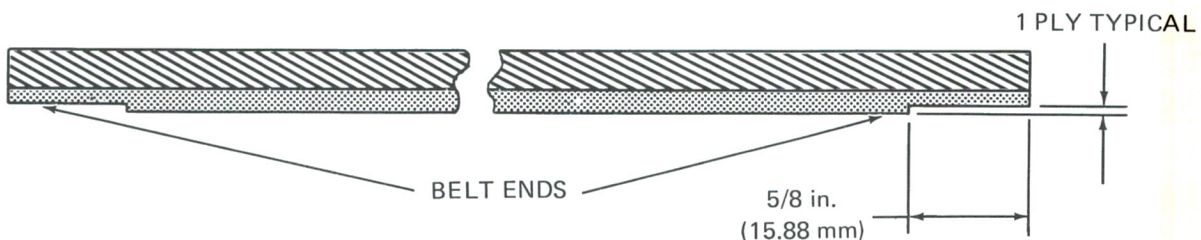

FIGURE 7-12. BELT LACING
- Step 7) Strip 1-ply of fabric about 1/32 to 1/16 inch (0.76 to 1.5 mm) thick from the belt backing about 5/8-inch (15 mm) long on each end (See Figure 7-12) before replacing belt lacing. This will allow the lacing to seal properly and not rub when reinstalled.